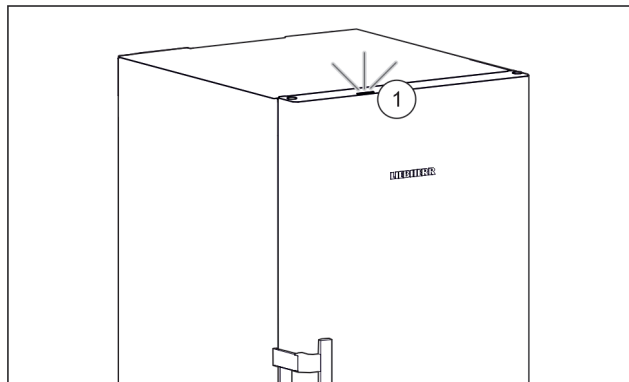

Fig. 51 Active status light when the door is closed
- ▷ Status light Fig. 51 (1) is activated.